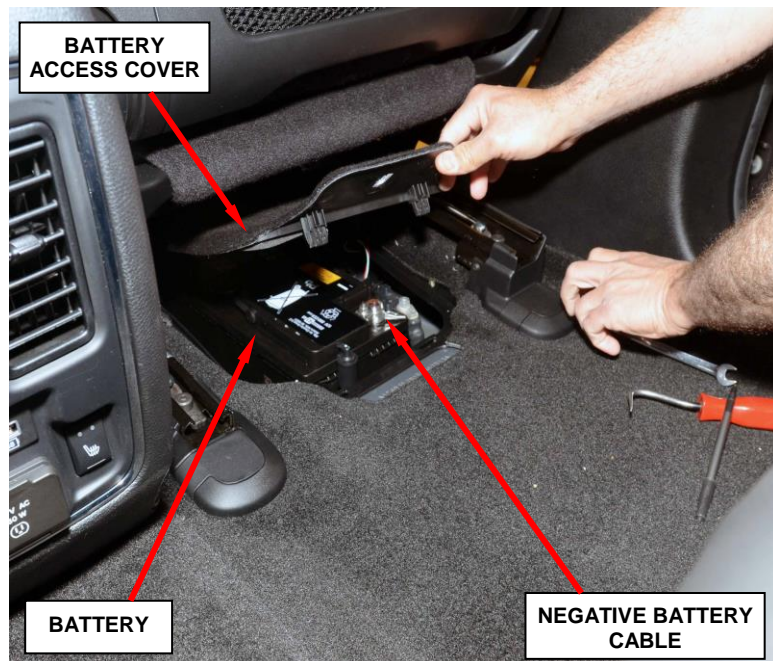

Figure 2 – Battery Location
5. Disconnect the negative battery cable located under the passenger seat (Figure 2).
45. Connect the negative battery cable to the battery (Figure 2).